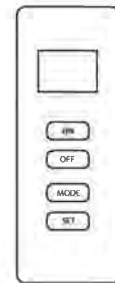

Fig.19 - Remote
- If pilot goes out repeat steps 3 through 7. Wait (1) minute before attempting to light pilot again. If after several tries the pilot still goes out, turn the gas control knob clockwise  to the "OFF" position and call a qualified service technician.
9. To use the included thermostatic remote control, set receiver switch to the "REMOTE" position (See Fig. 19). Press the ON button to turn on the remote to ignite the main burner. Refer to the remote control instruction manual on the next page for "MODE" and "SET" functions.